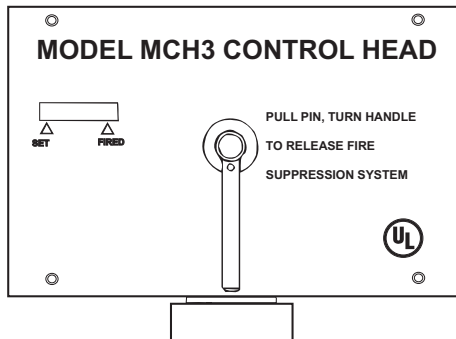

FIGURE 5
The Model MCH3 mechanical control head is a fully mechanical control head which can be connected to the A-15/17/25/35/70 tank valve. This control head will support a fusible link detection system, a remote mechanical pull station (Model RPS-M), and an electric gas shut-off valve. A micro switch (Model MS-SPDT, MS-DPDT, MS-3PDT, or MS-4PDT) can be ordered separately and field installed. It is equipped with a local manual control handle that allows for mechanical system actuation. Operation of the local manual control requires removing the pull pin and rotating the handle clockwise. The Model MCH3 control head can actuate a maximum of five (5) tanks. See Figure 5.